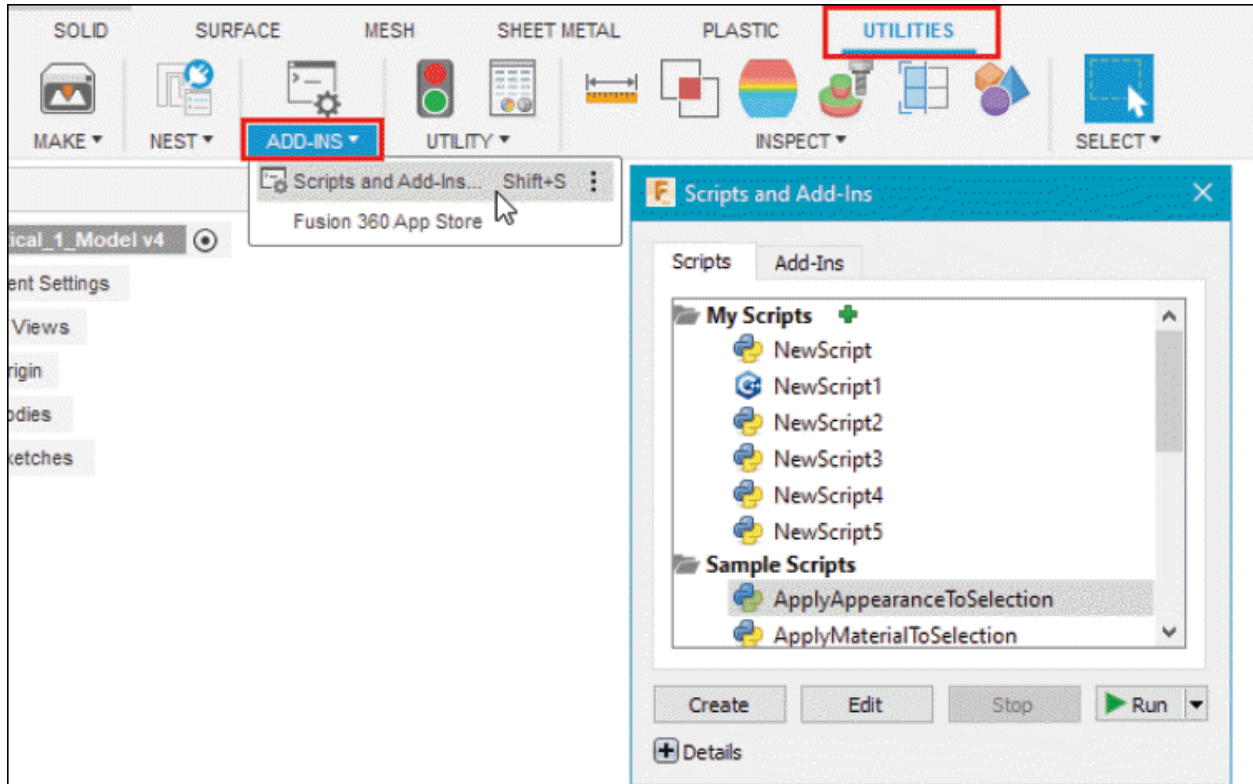

Figure-80. Scripts And Add-Ins
- Click on **Scripts and Add-Ins** tool from **ADD-INS** drop-down in **UTILITIES** tab of **Ribbon**. The **Scripts and Add-Ins** dialog box will displayed; refer to Figure-80.